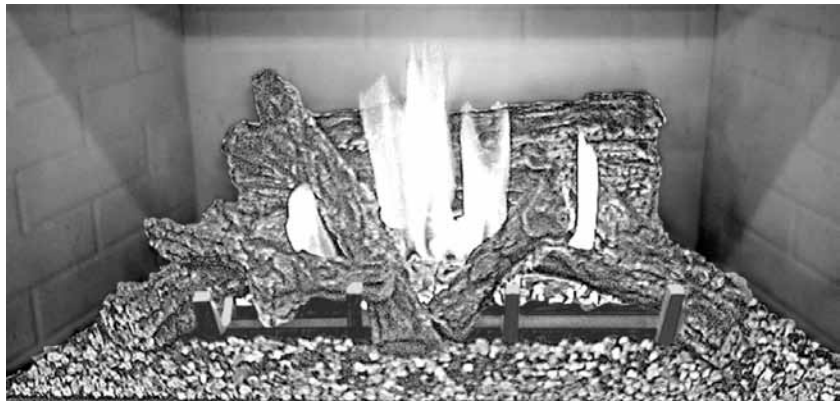
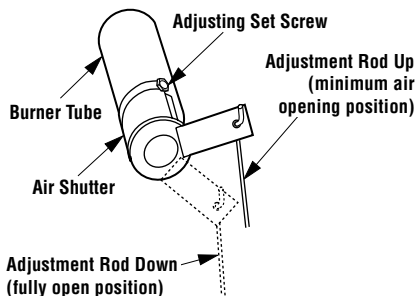

Figure 59 - Burner Flame Appearance, Model MPDP35
Figure 61
1. Refer to **Figures 59 and 60** for proper flame appearance. To adjust the flame, rotate the adjustment rod toward the back or toward the front of the fireplace (rod located in the lower control area). Position the air shutter to the factory setting as shown in the table in **Figure 61**.